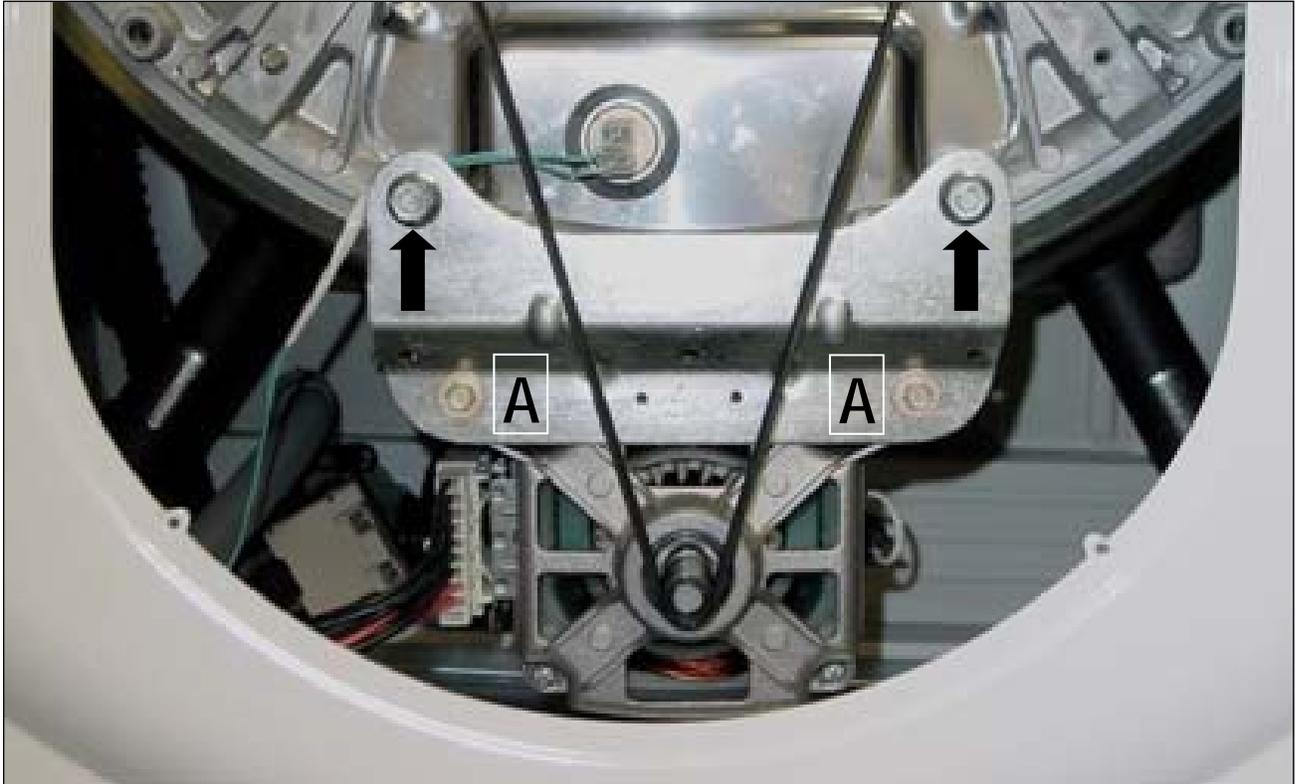
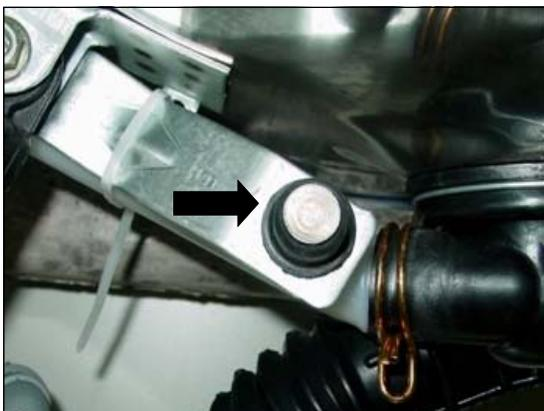
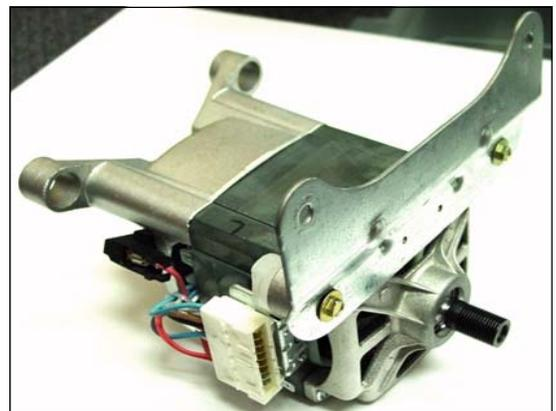

Fig. 13-1
Fig. 13-2
Fig. 13-3
- To remove the Main Motor, first remove the Drive Belt and then the two (2) 13 mm Motor Mounting Plate Bolts (Fig. 13-1). The Main Motor has three support points, two in the front (A) and a third located on a Rear Mounting Bracket that supports the Motor on the rear left side (Fig. 13-2). Brace the Motor as you remove the two Mounting Plate Bolts, when both bolts are clear bring the Motor out toward you freeing it from the rear support (Fig. 13-3). Remove the two (2) 8mm Bolts that attach the Plate to the Motor.